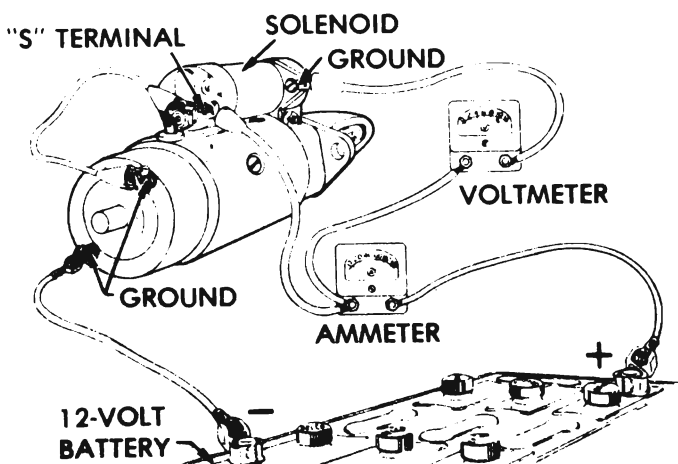

Figure 68-3 Amperage Test of Solenoid
1. Remove screw from solenoid motor terminal and bend field leads slightly until clear of terminal. Then ground solenoid motor terminal with a heavy jumper wire. See Figure 68-3.